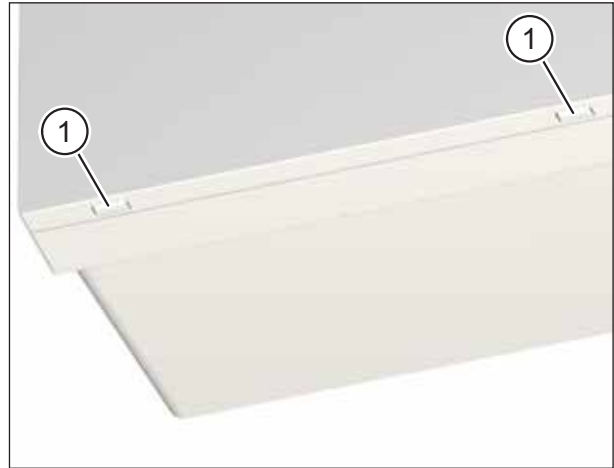

Fig. 18: Removing the cover from the ventilation unit
- ▶ Using both thumbs, press the two latches (item 1 in Fig. 18) on the bottom of the ventilation unit. The unit cover will come away.